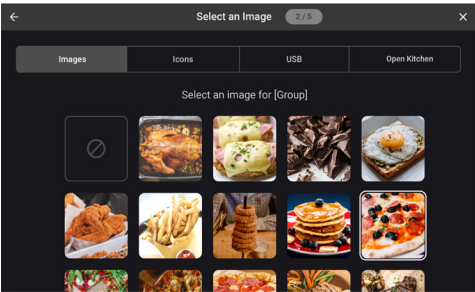

Figure 20: Select Group Image
- 4. Select an image and touch the blue “Save” button (Figure 20, below).